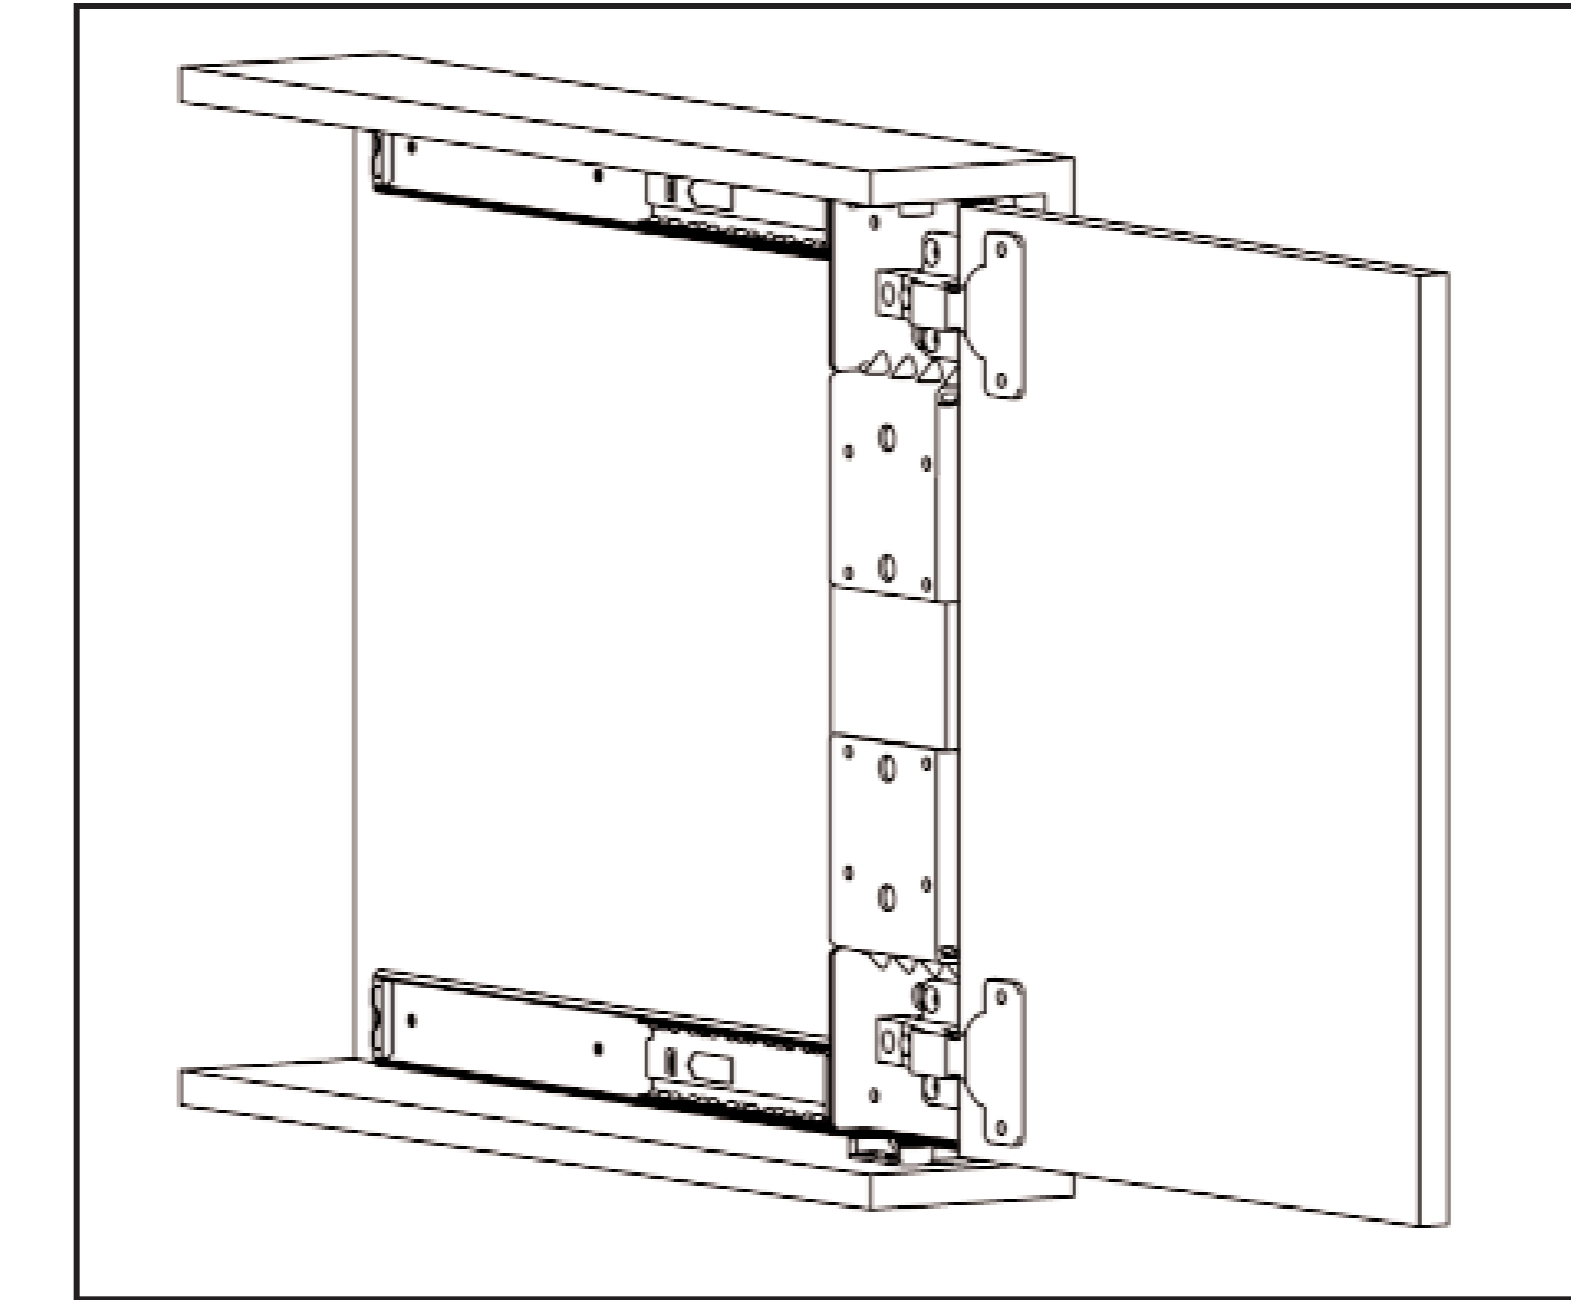

figure 6
- Refer to Figure 6 for door glide location.
- Install two guide blocks per door using (2) #6 X 13/32" pan-head self-tapping screws per block.